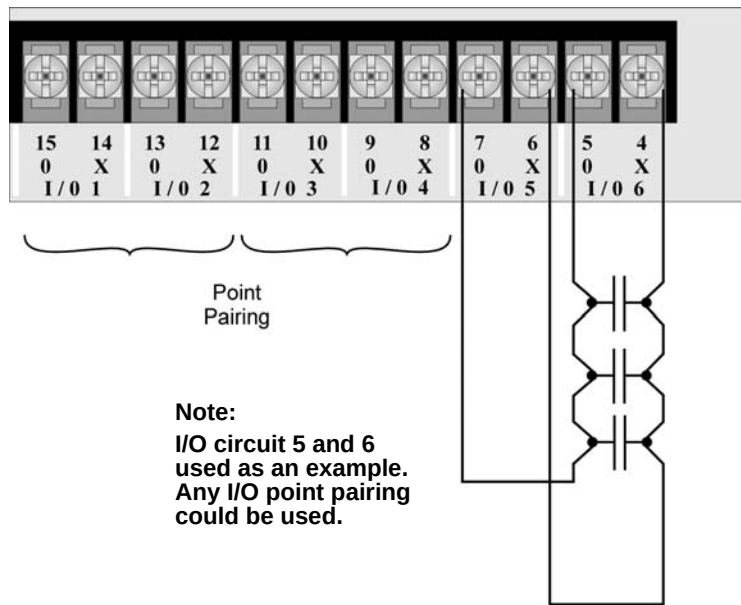

Figure 3-11 Class A initiating Switches
1. Wire the Class A switch as shown in Figure 3-11.
Note: In programming any point that uses multiple I/O circuits are always referred to as the lowest I/O circuit number used. For example, Figure 3-11 uses both I/O circuit 5 and 6, so in programming it would be referred to as point 5.